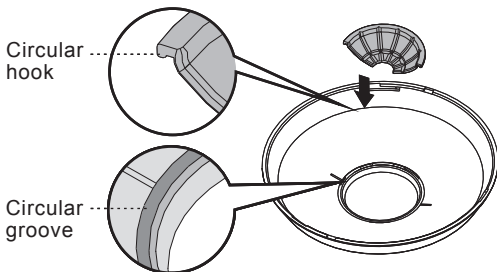
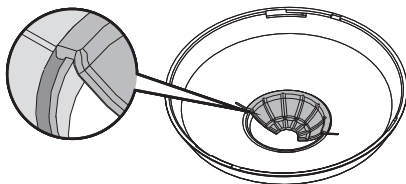

FIG.24
FIG.25
- 4.3.3 Fixing lens shield: There is a circular groove on the back of the decorative frame and the lens shield is designed with a circular hook. The lens shield can be fitted by inserting the hook of lens shield into its correspondent groove on the decorative frame (See FIG.24 & FIG.25).